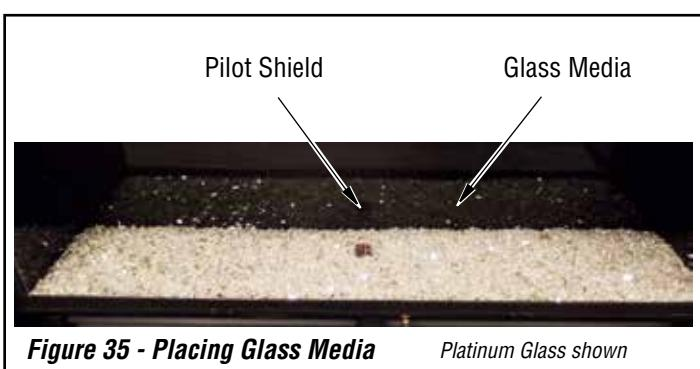

Figure 35 - Placing Glass Media
1. Place glass media in a layer evenly make sure only one layer of media on top of the burner and remaining media could be spread evenly across the remaining pan media. Ensure not to place media on top of the pilot shield, it is okay to place media around the shield (*see Figure 35, Page 32*).